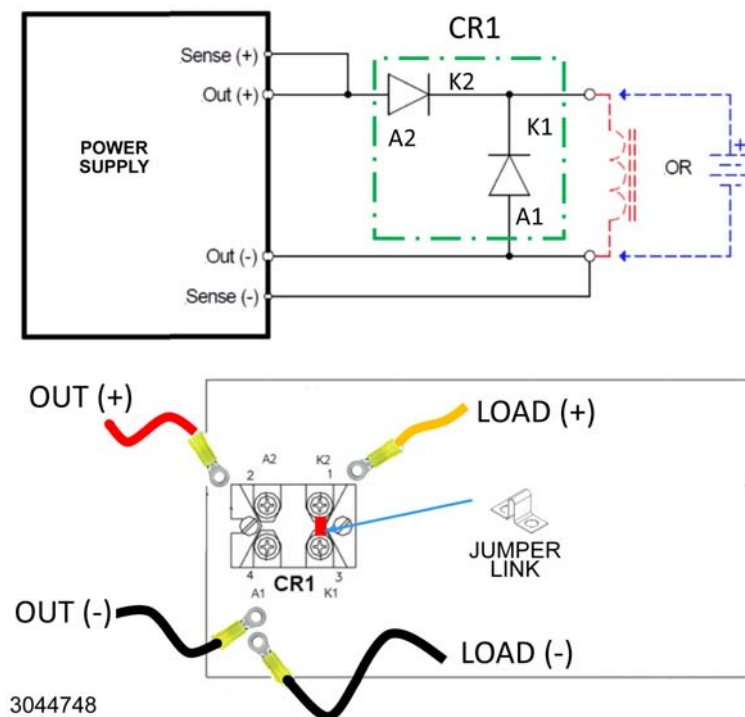

FIGURE 2. KIT 219-0669 INSTALLATION
4. Wire the connections as shown in Figure 2. Secure ring lugs to diode terminals using diode terminal screws, torque to 10 lb*in (1.1Nm).